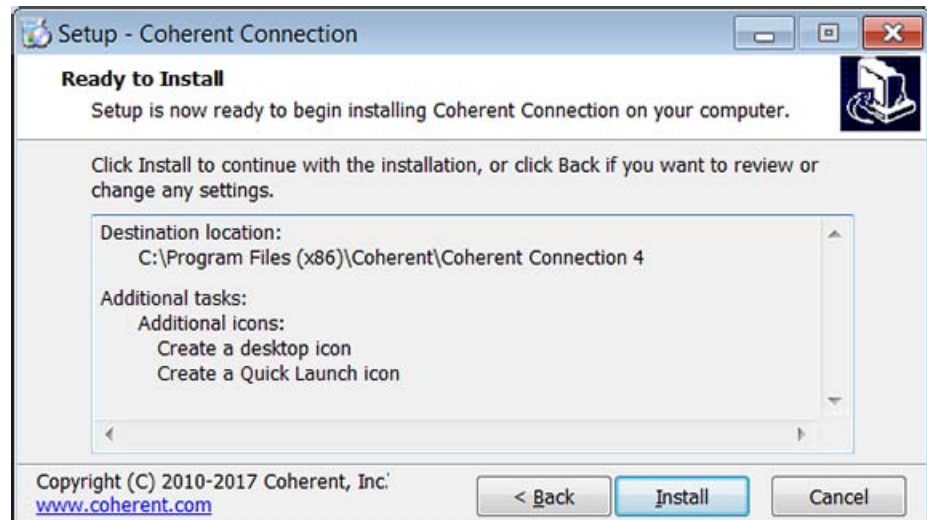

Figure 4-7. Review Set-Up before Installation Begins
10. The set-up utility is now ready to begin installing Coherent Connection 4 software on your computer. Review the location and icons, as shown in the example in Figure 4-7, and then click Next.